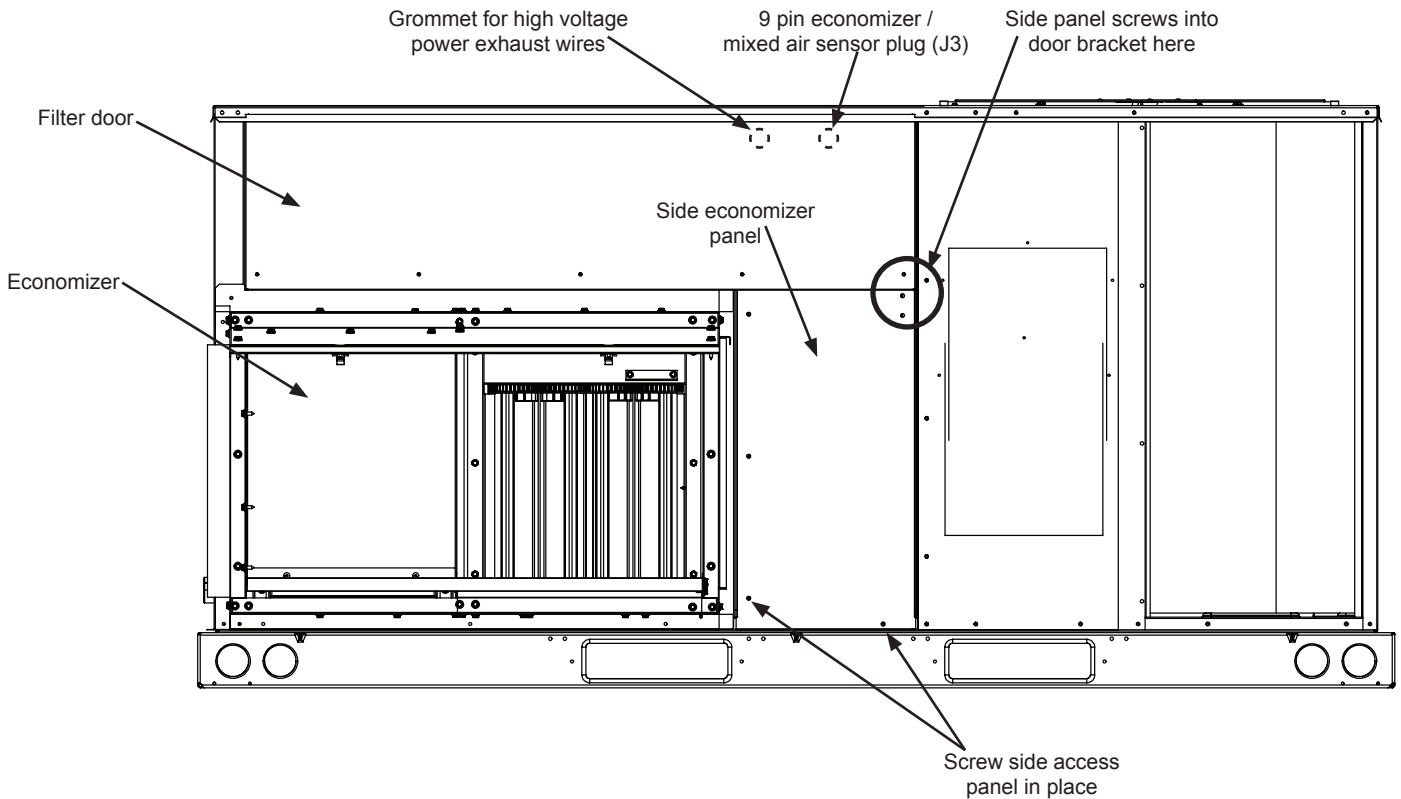

Figure 2
10. Remove 7/8" knock out from indoor top coil seal. Insert 7/8" webbed snap bushing into place. (See Fig. 2.)
11. Route the high voltage harness through bushing (see Fig. 2) into the supply air section. Then, continue to route the harness through the igniter wire port at the top of the panel on left side of supply air section, and to unit electrical control box. Secure wires in place.